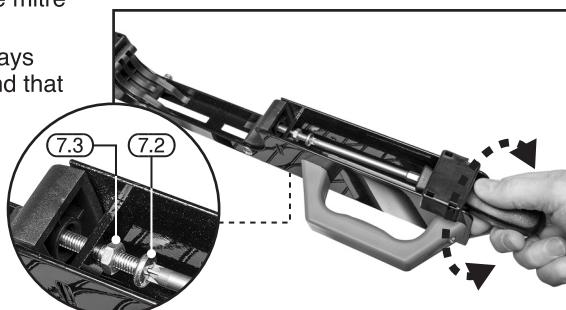

FIG.9
- Place the roller arms (1) into the roller bar supports (1.1), slide up and down to the desired location and secure in place with the locking knobs (2).
8.3 MOUNTING A MITRE SAW – FIGS.9 – 16
- Before fitting the mounting brackets (7) to a mitre saw, firstly determine how easily the mounting brackets can be seated on the mitre saw frame.
- Depending on the adjustment required, turn the screw clockwise to tighten the clamping tension, or anti-clockwise, which will loosen the clamping tension (Fig.9).